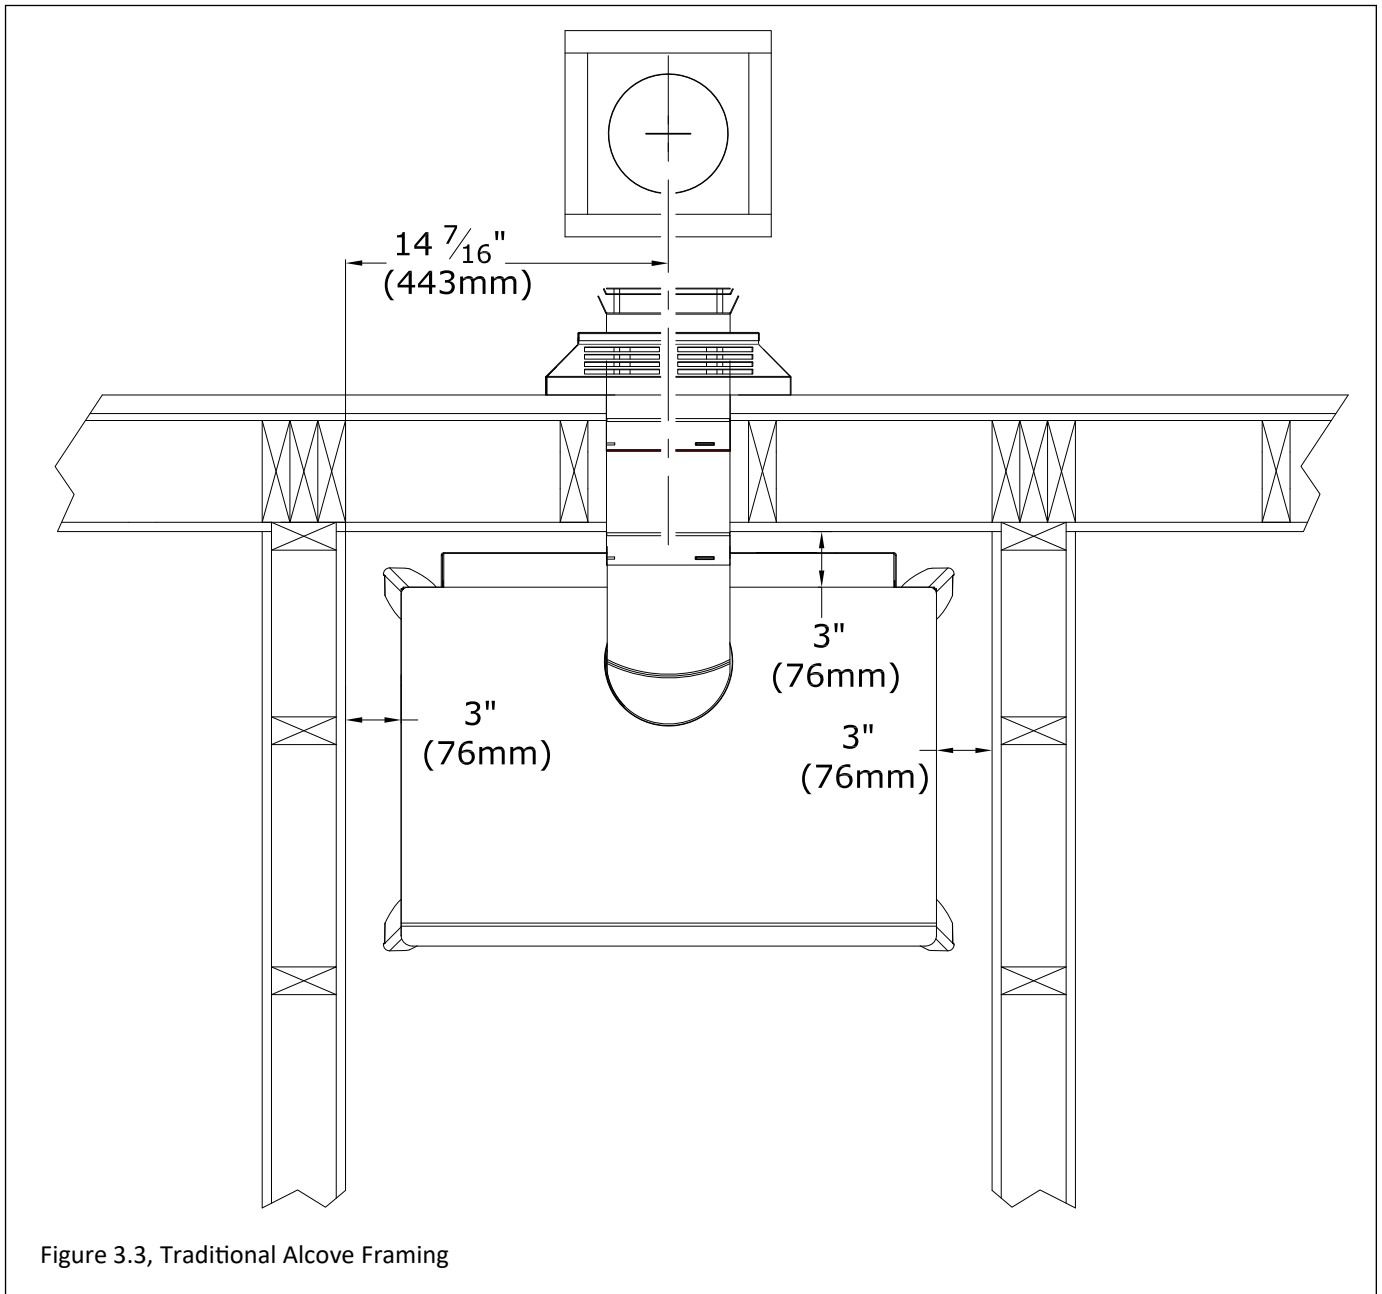

Figure 3.3, Traditional Alcove Framing
- Refer to Figure 3.3 for rough-in clearances.
Shown in Figure 3.3 is a top-down view of a traditional alcove installation.